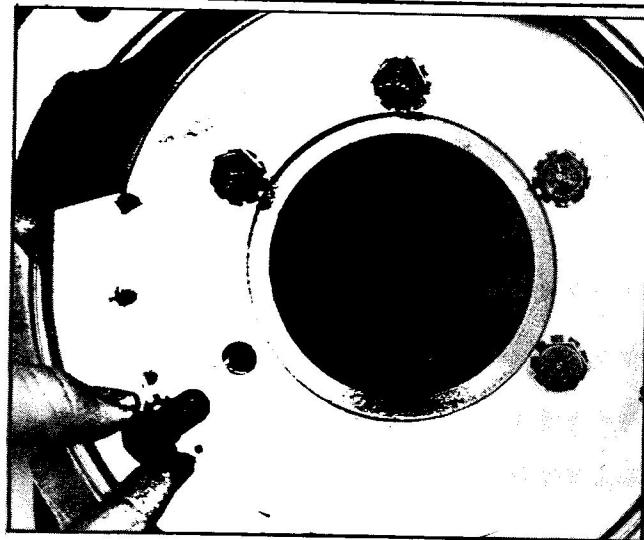

Fig. 32 Remove Oil Baffle Bolts
3. Remove oil baffle to reduction housing bolts and remove oil baffle and spacer, (Fig. 32).
3. Remove oil baffle to reduction housing bolts and remove oil baffle and spacer from reduction housing, (Fig. 32).